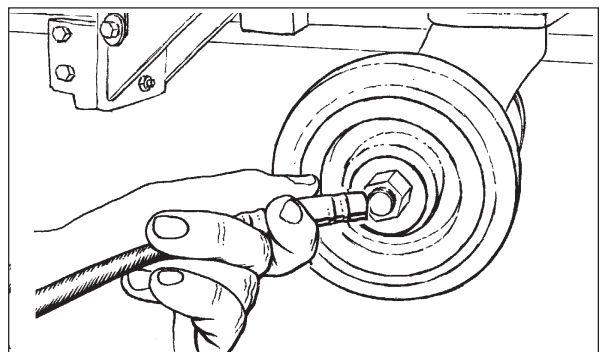

Figure 30
5. Use a grease gun to lubricate the dual casters. See figure 30.